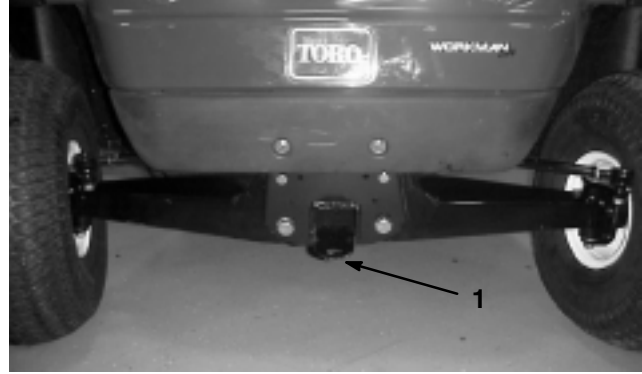

Figure 21
2. Affix a tow line to tongue on front frame member (Fig. 21).